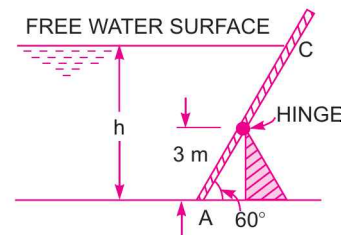

Fig. 3.24
**Problem 3.19** A gate supporting water is shown in Fig. 3.24. Find the height  $h$  of the water so that the gate tips about the hinge. Take the width of the gate as unity.